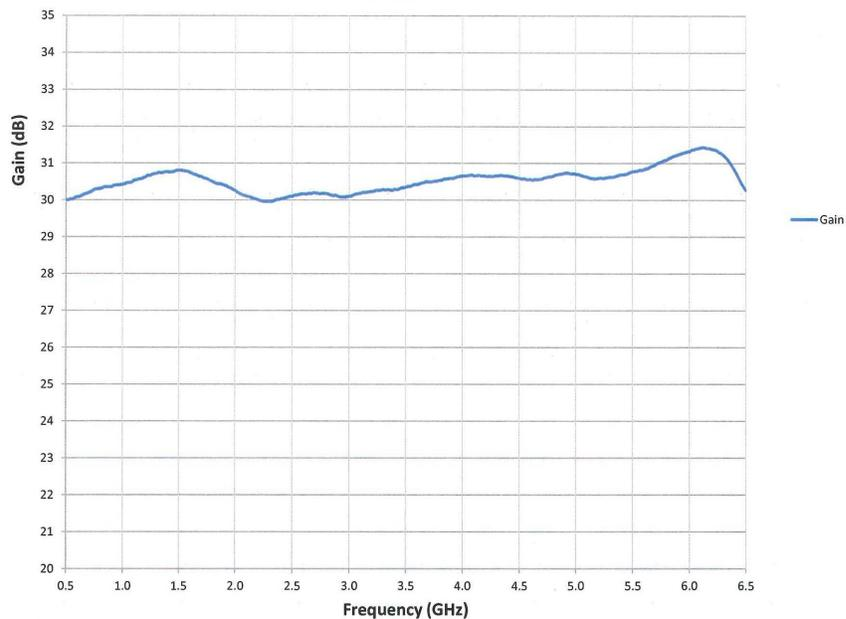

Figure 4-7. Typical A1 Preamplifier Response
NOTE: The A1 Preamplifier's response may differ considerably, particularly in flatness, from the typical response shown in Figure 4-7.
8. The typical response for the A1 Pre-amplifier is shown in Figure 4-7.